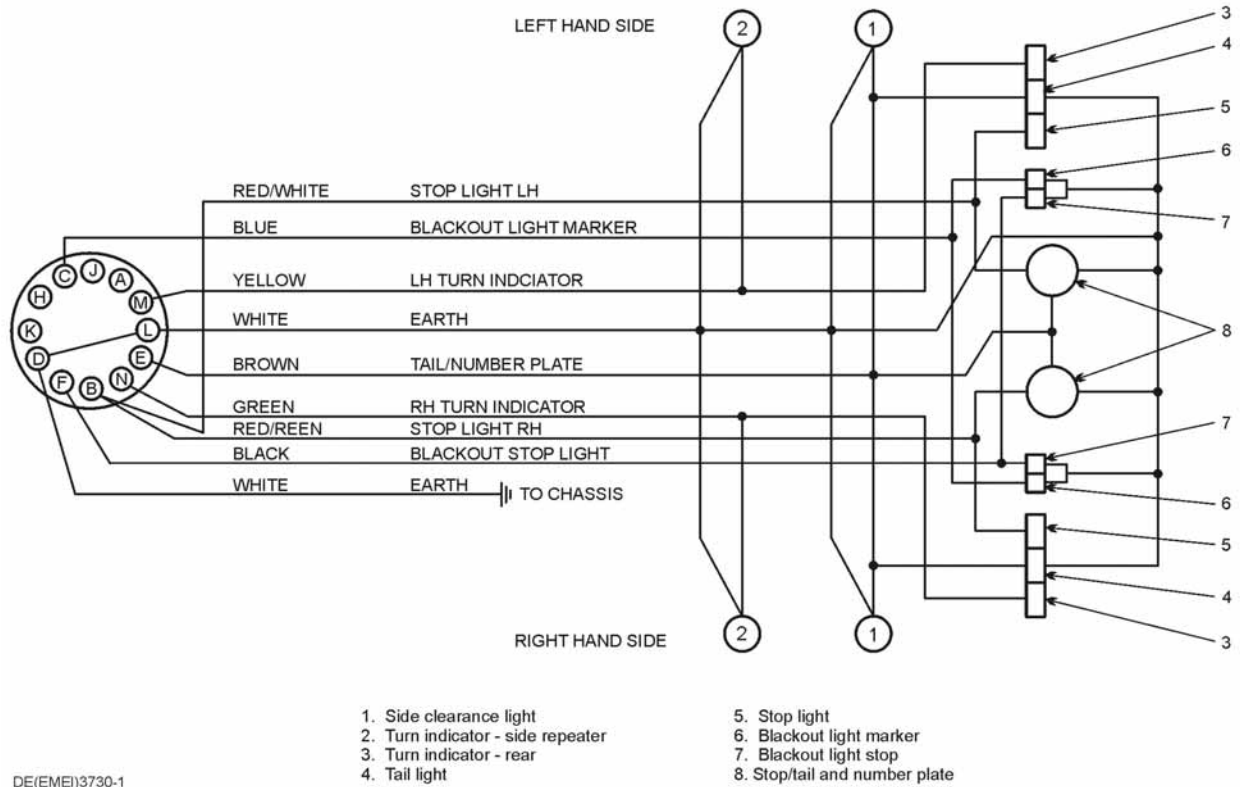

Figure 25 Wiring Diagram
- c. Tag and remove each individual wire from the socket pins using a soldering iron. Refer to Figure 25 for pin outs and wiring colour coding.
- f. Solder each individual wire into its corresponding socket pin according to Figure 25.
**65.** The wiring diagram for the trailer is as shown in Figure 25. The diagram shows only one side clearance light per side (Figure 25, Item 1) even though there are five per side on the trailer, however they are wired in parallel.